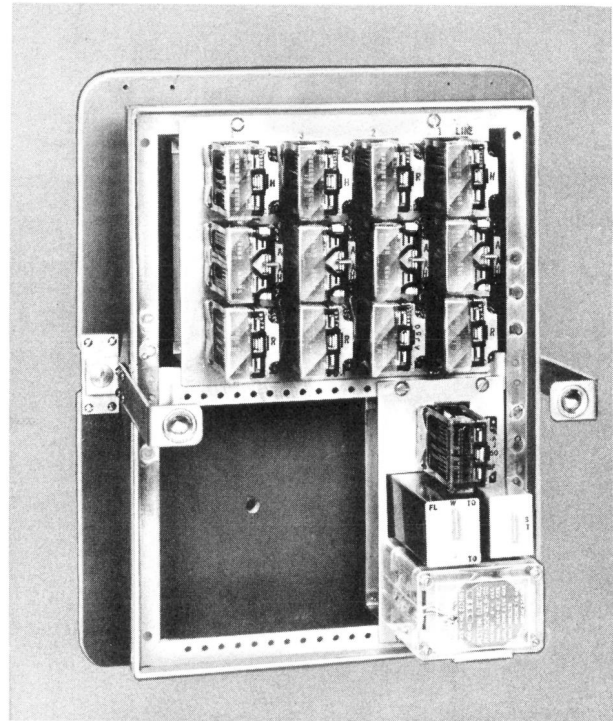
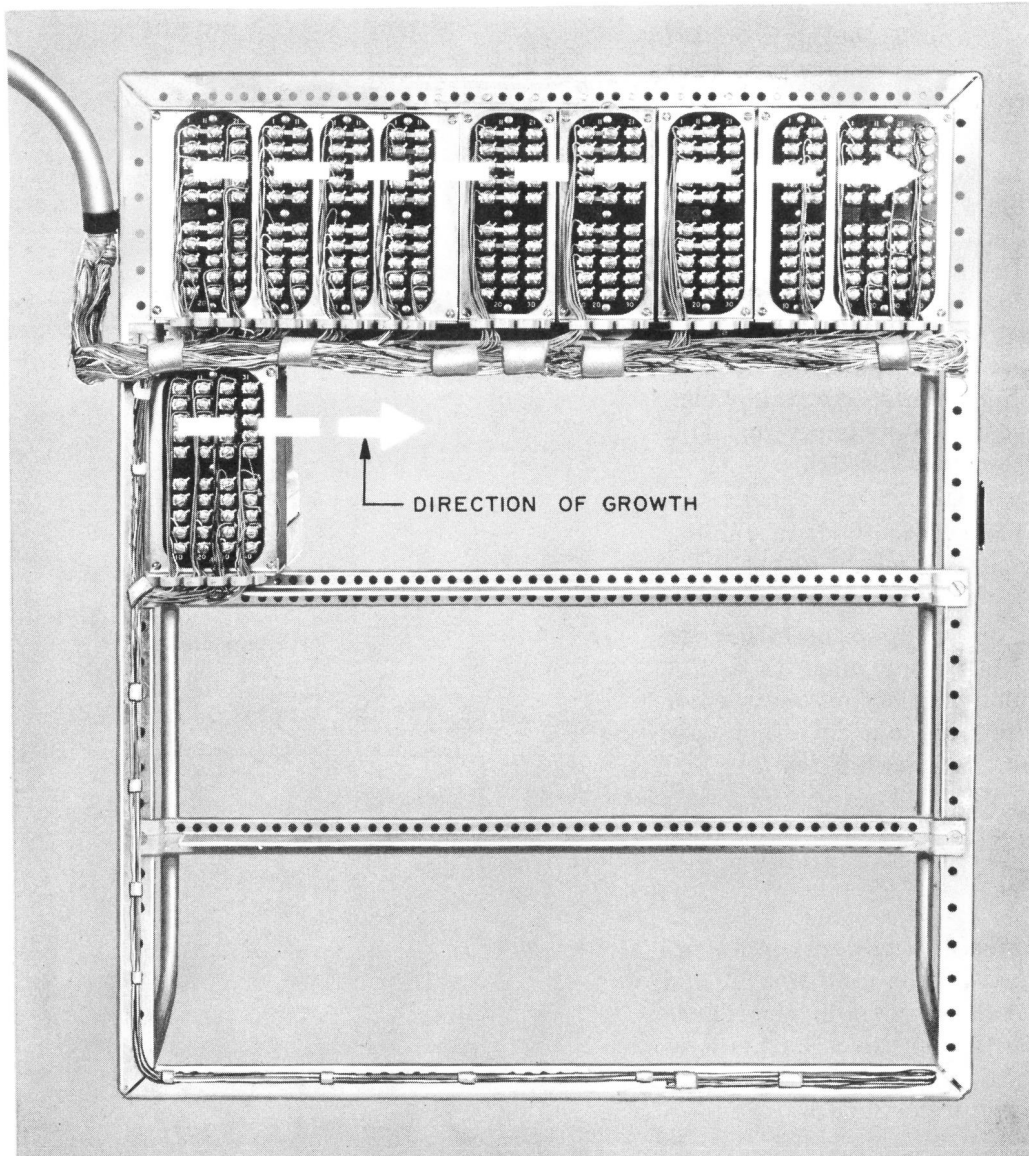

Fig. 6 - 31A Apparatus Mounting on 173B Backboard, 1A1 System
Fig. 12 – Direction of Growth in 26A Apparatus Mounting
- Add illustrations for 31A apparatus mounting (Fig. 6) and 26A apparatus mounting (Fig. 12).
3.07 Fig. 6 shows a 31A apparatus mounting mounted on a 173B backboard.
4.17 Fig. 12 shows direction of growth of key telephone units in a 26A apparatus mounting. Cable may enter from top or bottom, but in either case growth of units is from top down.